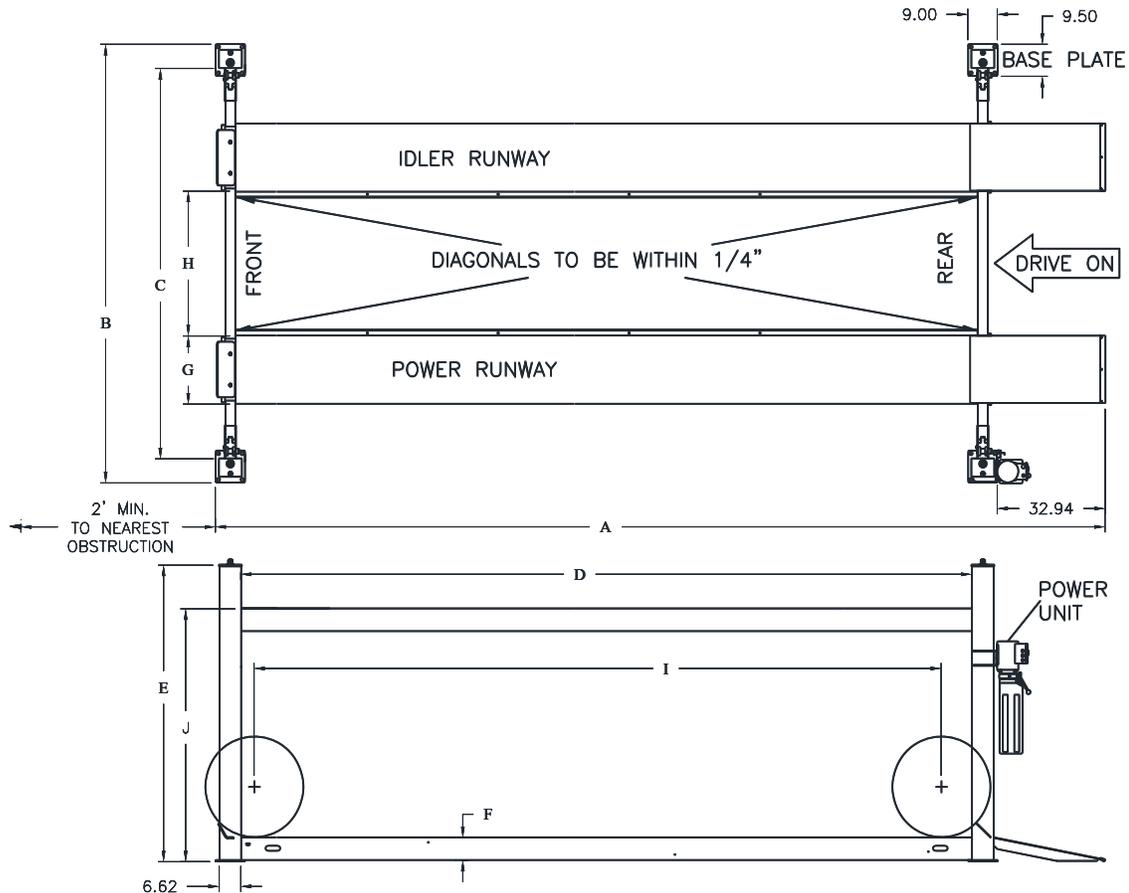
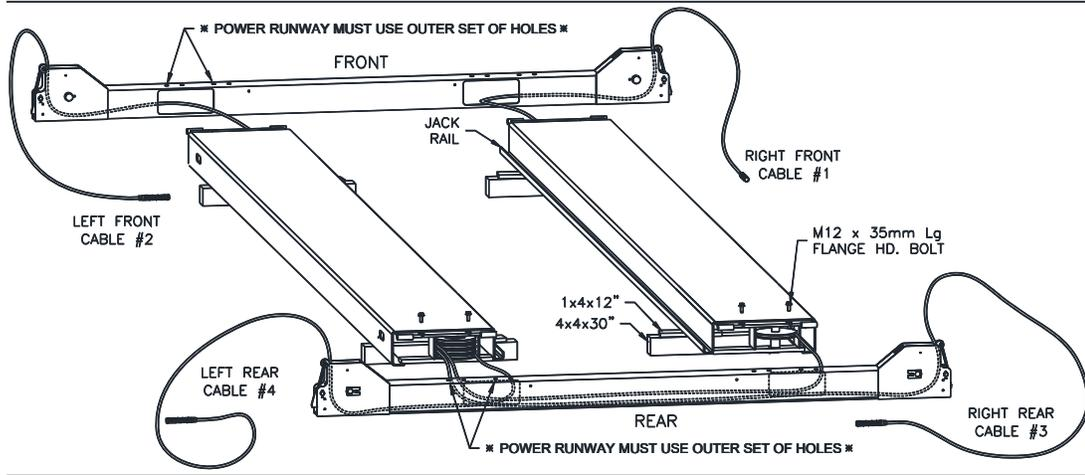

Fig 1 – General Specifications and Service Bay Layout
Fig 4 – Runway Layout
- 1) Lay out the service bay according to the architect's plans or owners instructions, **Fig 1**. Be certain that the proper conditions exist, see page 3.
- 3) Position runways on blocking (see Fig 4) per layout lines established in step 1. Use four 30" long 4x4's spanning the width of the runway and
four 12" long 1x4's to shim up the jack-rail side of the runway. Cable #1, #3, & #4 should be extending out from the rear of the power runway and cable #2 from the front of the power runway, Fig 4.
- 4) Position the front and rear cross beams, Fig 4. (Both cross beams are identical.)
- 5) Reach in through either of the access holes in the cross beam tube and pull out the roll of 4mm dia. plastic air line connected to the air cylinder at the end of the cross beam. Repeat for opposite access hole and position the cross beam near the end of the runways as in Fig 4.
- 13) Attach both cross beams to the runways (**Fig. 4**) with M12 x 35mm lg. flange head bolts (two at each end of each runway) being careful not to pinch the air line. Leave the airlines hanging out the bottom of the crossbeam access holes at this time, they will be fed in through the runway after the lift is raised. **The outermost power runway slots should be in line with the outermost holes in the top of the cross beam, see Fig. 4.** The idler runway can be installed using the outer or inner sets of cross beam holes, see "Width Between Runways" dimension in **Fig. 1**. Do not torque bolts yet.